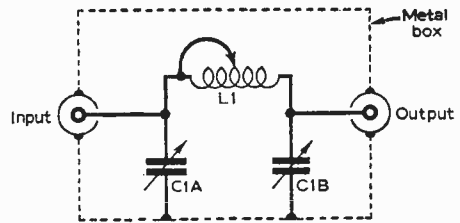

Fig. 4—A simple aerial matching unit. This is explained in the text.
For long distant (DX) reception, a variable aerial matching device is useful. Such consists of a small two-gang capacitor of about $0.0025\mu\text{F}$ and a tapped coil, as shown in Fig. 4. The unit can easily be constructed in a small metal box with input and output coaxial sockets. The number of turns required for L1 will depend on the frequency, and can be found by experimentation and